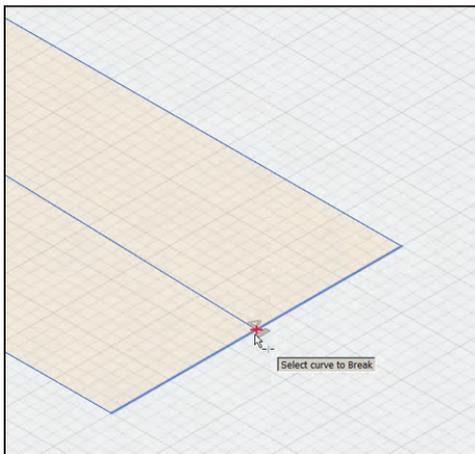

FIGURE 2-41: The Break tool cuts a continuous line into two lines.
- ▶ **Break:** This tool lets you cut a continuous line where another line intersects it. Hover over a line to select it. A red X will appear at the intersection. Click it, and the highlighted line will break into two lines (Figure 2-41).